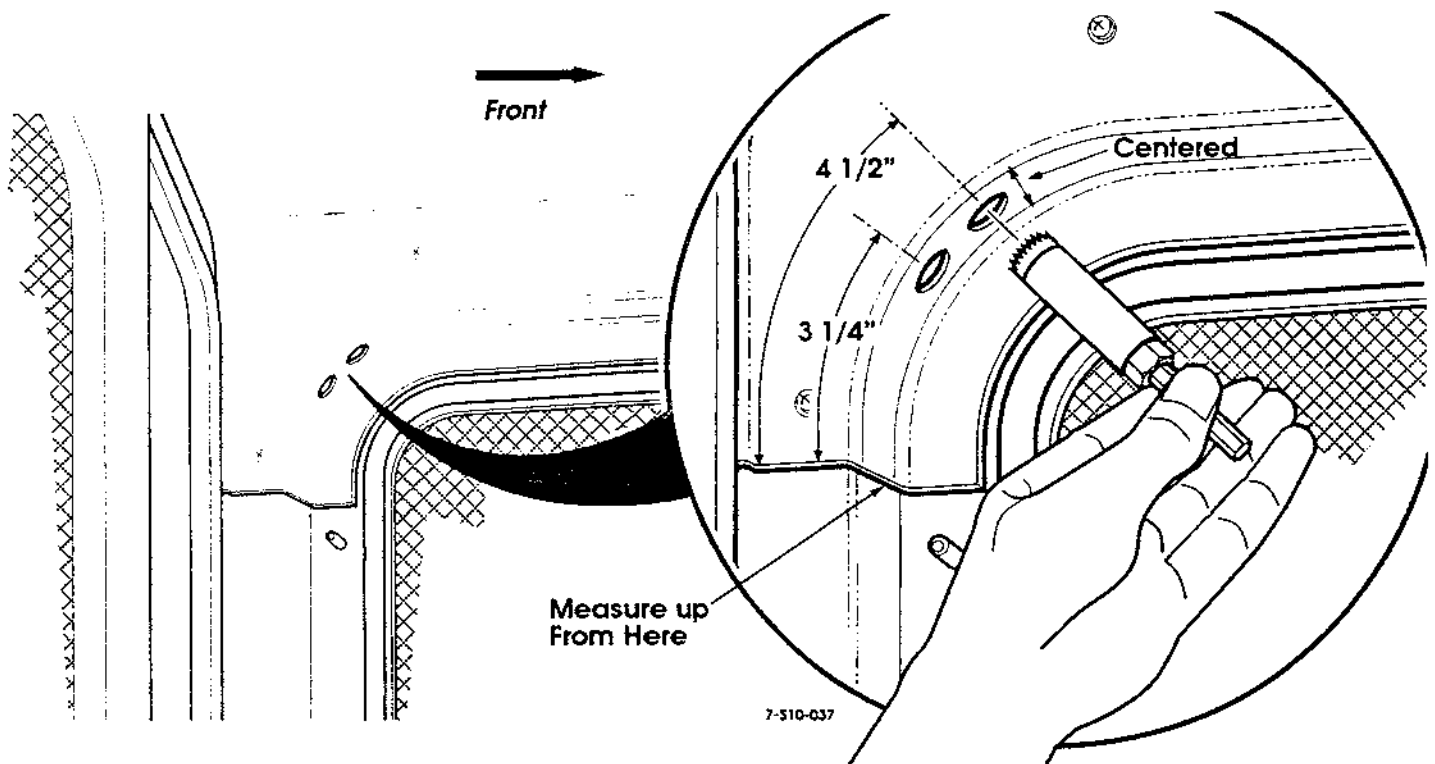

Figure 7 Left Side Trim Piece (Installed)
1. Remove trim from left and right rear of vehicle (over side cargo windows) (See Figure 7).
2. On the rear of the trim piece, measure up the inside radius near the rear of the cargo window and place a mark $3\text{-}1/4''$ and $4\text{-}1/2''$ from the bottom of the panel and centered across the same level (See Figure 7).
3. Using marks, and centerline of ledge, cut (2) $7/8''$ holes using a holesaw (See Figure 7).